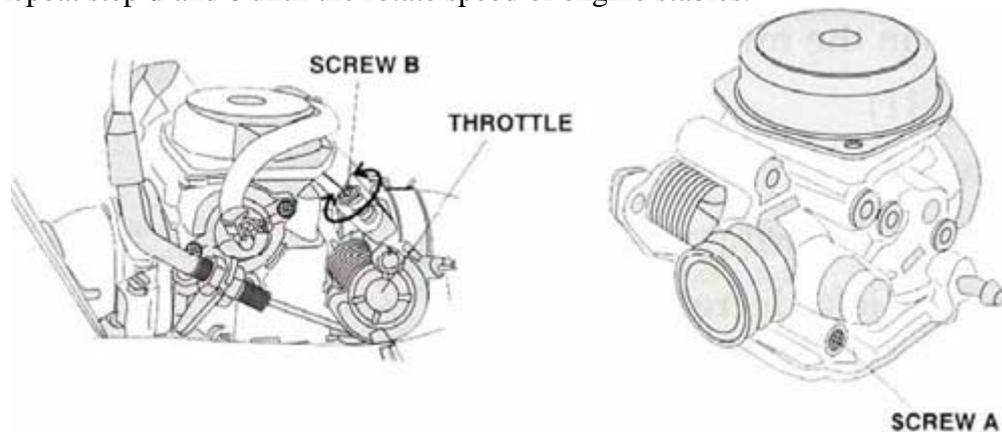

Figure 13
- b. Tighten the air screw gentle. Back out 2-3/8 turns counter clockwise (see Fig. 13).